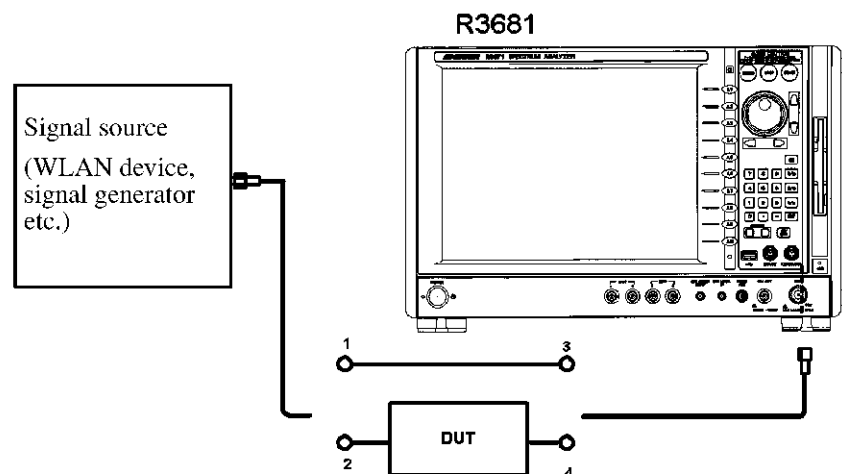

Figure 4-16 Connection Diagram for Frequency Characteristics Measurement of a DUT Using Equalizer
1. Connect the instruments as in circuits 1-3 of Figure 4-16.
42. Connect the instruments as in circuits 2-4 of Figure 4-16.